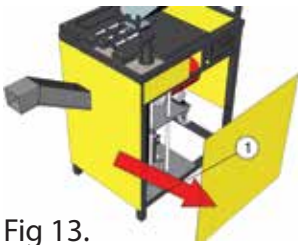

Fig 13.
1. Remove the right cover of the machine (1; Fig 13).